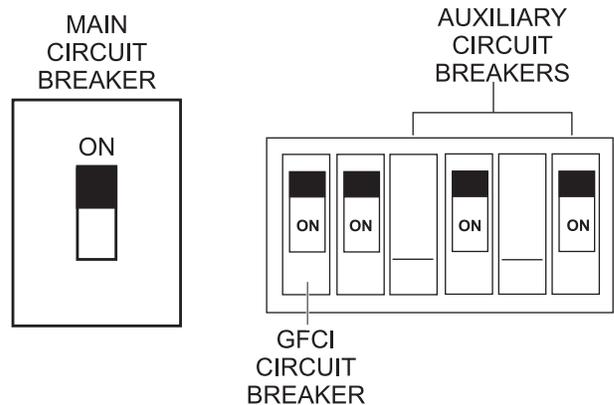

Figure 33. Main, Aux. and GFCI Circuit Breakers (ON)
10. Place the **main, GFCI, and aux.** circuit breakers in the **ON** position (Figure 33).